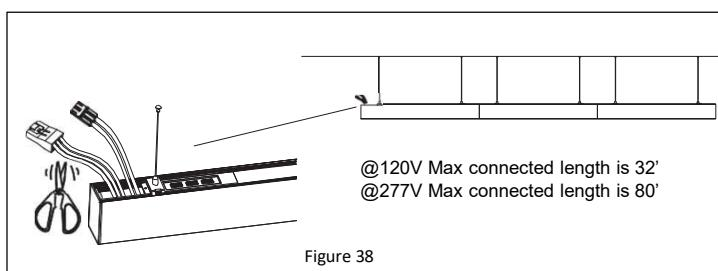

Figure 38
10. Cut off the connectors in one end for wiring to line voltage. *See Figure 38.*